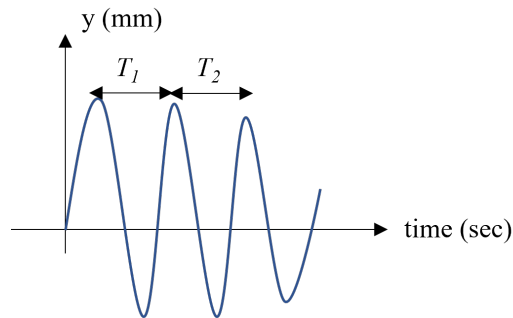

Figure 2: Vertical oscillation of the spring-mass system recorded in the dynamic setup
- Identify the period of the oscillation for the first two complete cycles T_1 and T_2 , see Figure 2.